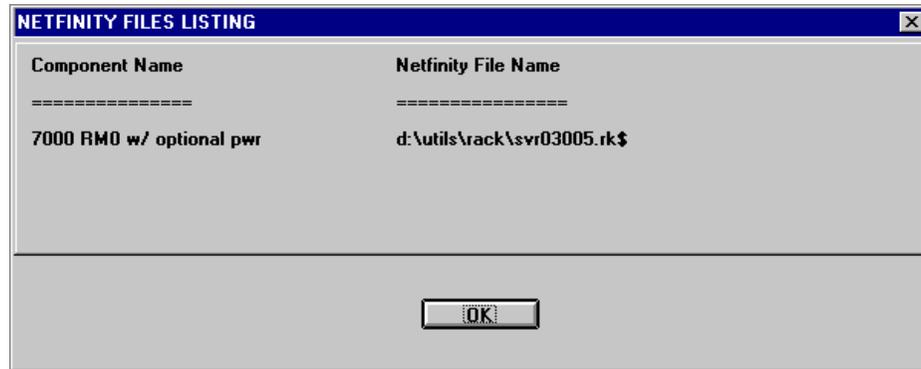

Figure 23. Sample Export File Created
3. Create the Netfinity files by selecting **Tools -> Create Netfinity Files** in the main window. A separate file is created for each server defined in the rack configuration (see Figure 23):